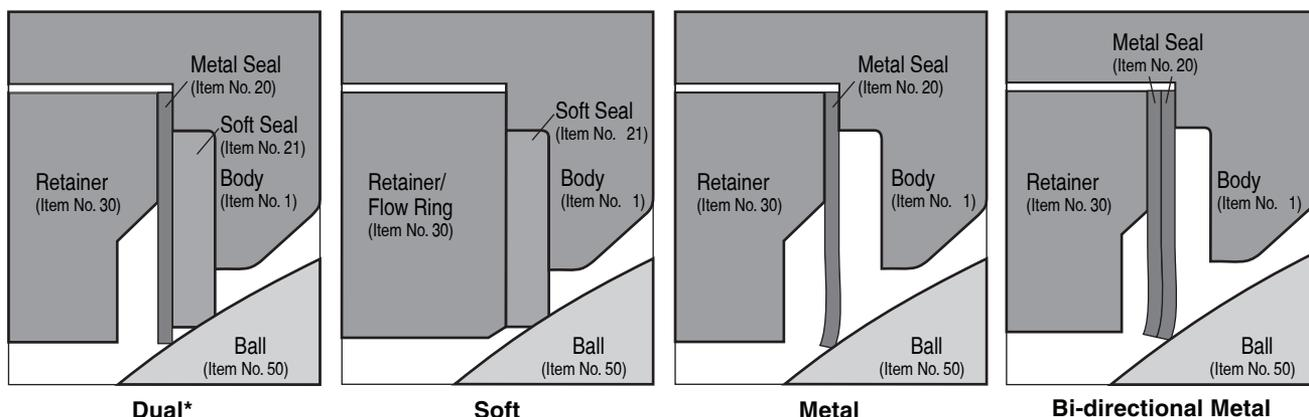

Figure 4: Seat Configurations
- Replace the soft and/or metal seal rings, as applicable to the application. (Refer to Figure 4.)